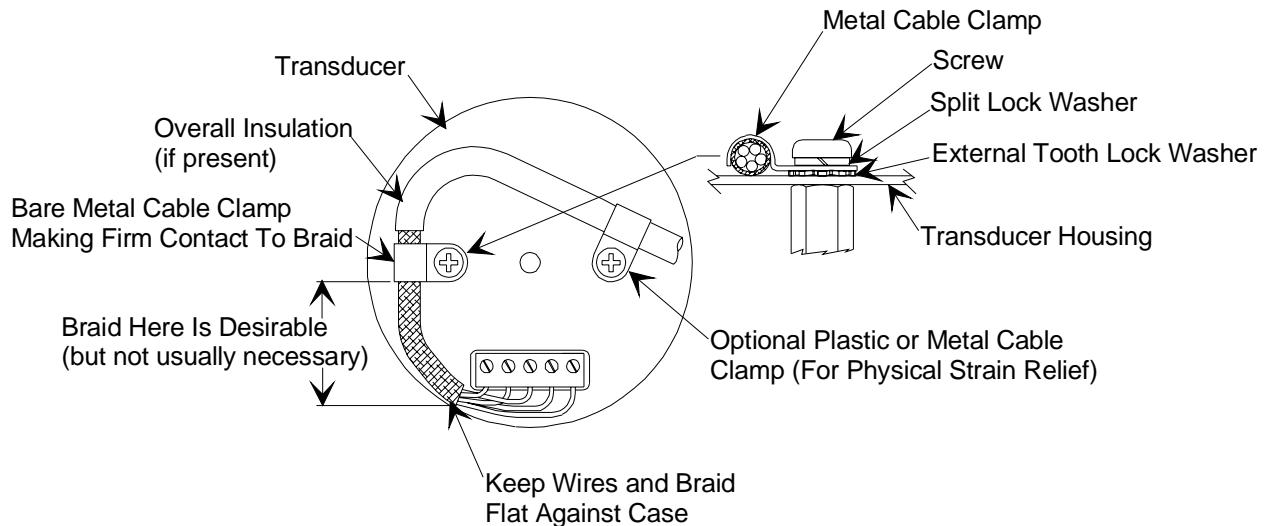

Figure 2: Preferred Method To Connect an Overall Metal Braided Shielded Cable
4. For shielded cables with flying leads at one or both ends; it is important at each such end, to ground the shield *before* the wires exit. Make this ground with absolute minimum length. Refer to Figures 2 and 3, page 24. (A  $\frac{1}{4}$  inch piece of #22 wire may be undesirably long since it has approximately 5 nH of inductance, equivalent to 31 ohms at 1000 MHz). After picking up the braid's ground, keep wires and braid flat against the case. With very few exceptions, grounded metal covers are not required over terminal strips. If one is required, it will be stated in the Declaration of Conformity or in the instruction manual.